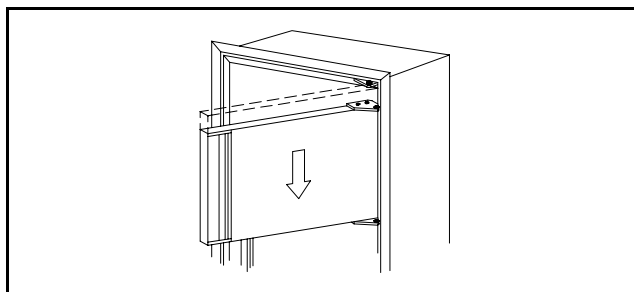

Figure 8
3. Remove the upper door by opening the door slightly and pulling the bottom of the door away from the refrigerator. Allow enough room to slide the door down off of the upper hinge pin shoulder. (See Figure 8)